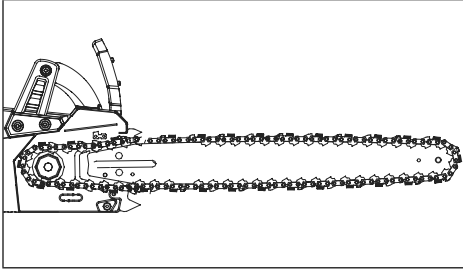

FIG. 12
5. Hold the chain in position on the guide bar and place the loop around the sprocket of the power head (Fig. 12).